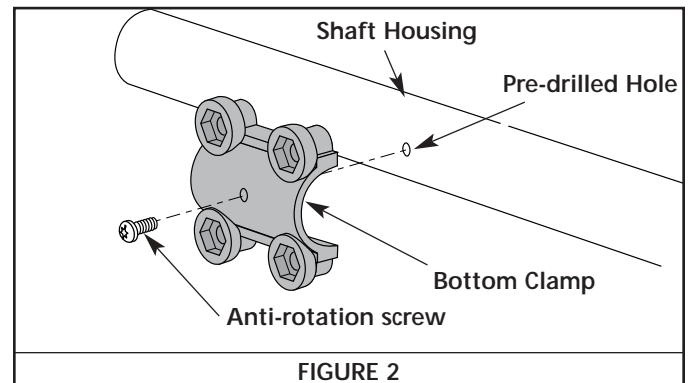

FIGURE 2
2. Lay the unit on its side. On the bottom of the shaft housing is a pre-drilled hole. With a flat blade or Torx T-20 screwdriver, insert the anti-rotation screw through the hole in the bottom clamp and into the hole in the shaft housing. Tighten securely. See Figure 2.